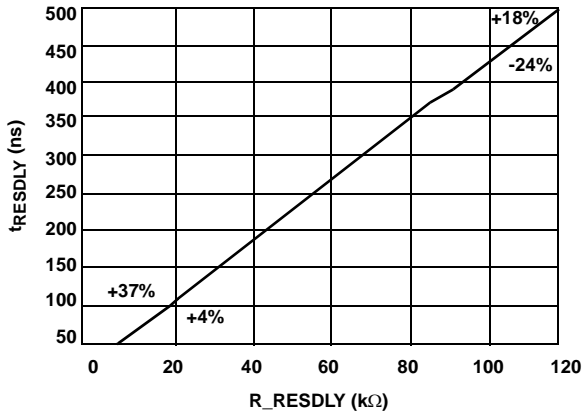

FIGURE 7. R_RESPLY vs RESPLY
- Figure 7 illustrates the relationship of the value of the resistor (R_RESPLY) and the resonant delay (t_{RESPLY}). The percentages in the figure are the tolerances at the two end points of the curve.